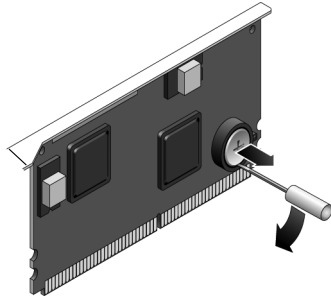

FIGURE 5-27 Removing the Battery From the System Controller
3. Using a small flat-head screwdriver, carefully pry the battery (FIGURE 5-27) from the system controller.